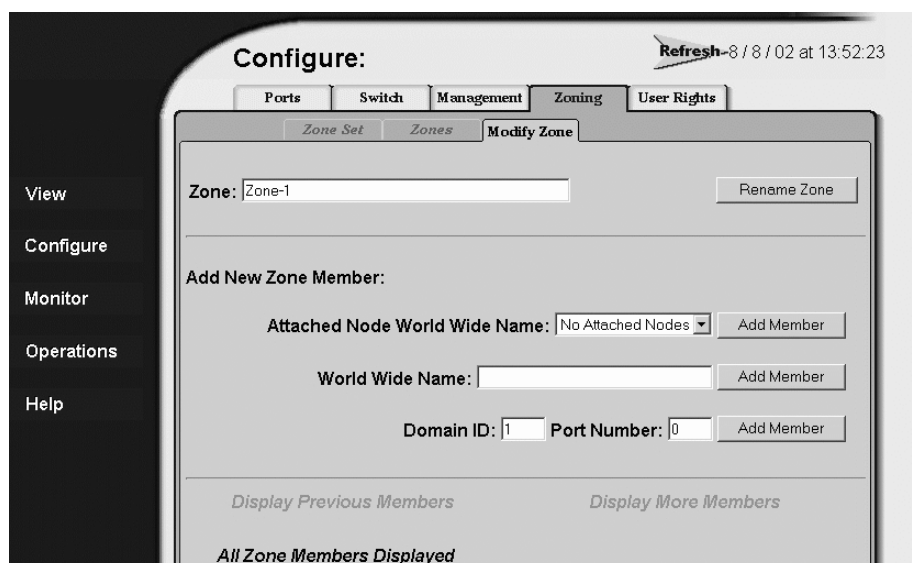

Figure 21: Modify Zone tab view
5. To add devices (members) to the zone, click the zone name (**Zone-1**). The **Modify Zone** tab view displays (Figure 21).